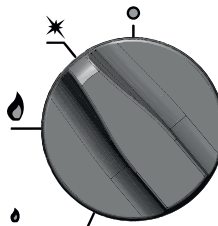

Figure 7. Setting the knob when only the pilot burner is gas-powered.
- Turn the knob to the „pilot burner“ position as shown in Fig. 7 (counterclockwise)
- If you temporarily do not use the burner, turn the pilot knob to the „pilot burner“ position (Fig. 7).